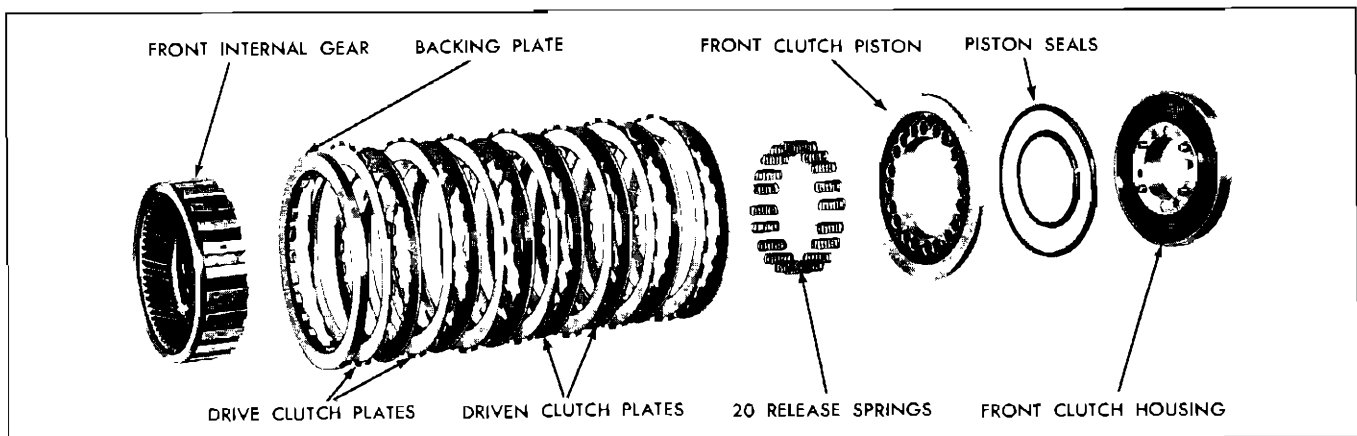

Fig. 81 Front Clutch—Exploded
7. Remove 7 drive and 7 driven front unit clutch plates (Fig. 81).